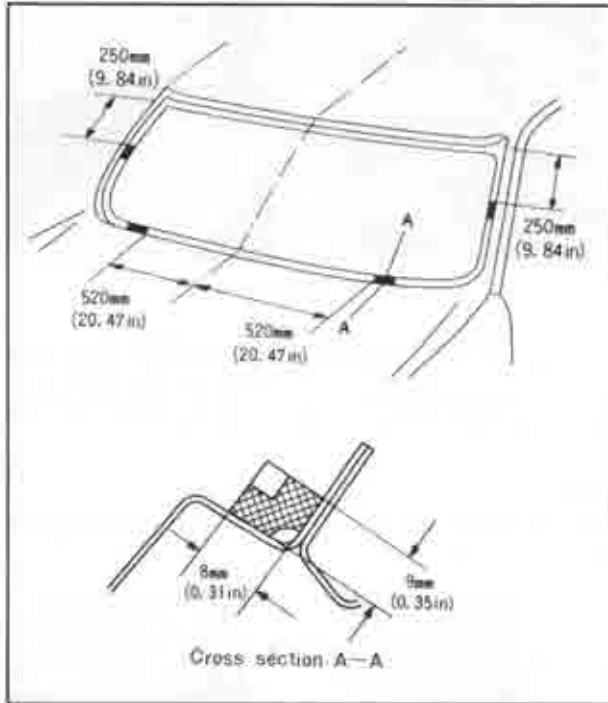

Fig. 14-30 Position spacers
4. Bond each spacer to the glass opening flange with bonding agent. Fig. 14-30 shows the directions and positions of each spacer. There are two kinds of spacer.
Although the spacer is bonded on both the right and the left hand sides of the windshield glass in Fig. 14-30, the spacer on only one side of the glass should be sufficient.